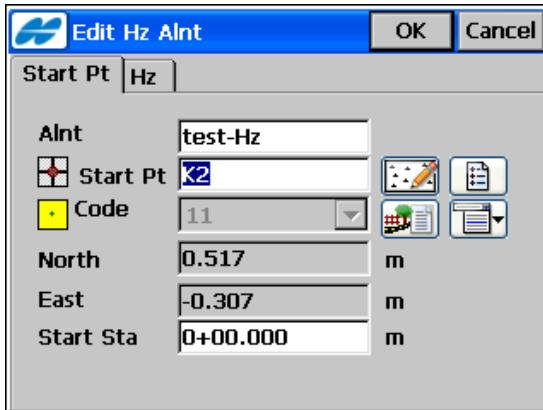

Figure 7-5. Edit Horizontal Alignment
- **Add** – opens the **Add H_z Alnt** screen with empty parameter fields to set a new horizontal alignment (see Figure 7-5 on page 7-6).
The **Edit Hz Alnt** screen (Figure 7-5) contains the features of the horizontal alignment.
The **Start Pt** tab (Figure 7-5) displays the starting point of the horizontal alignment parameters.